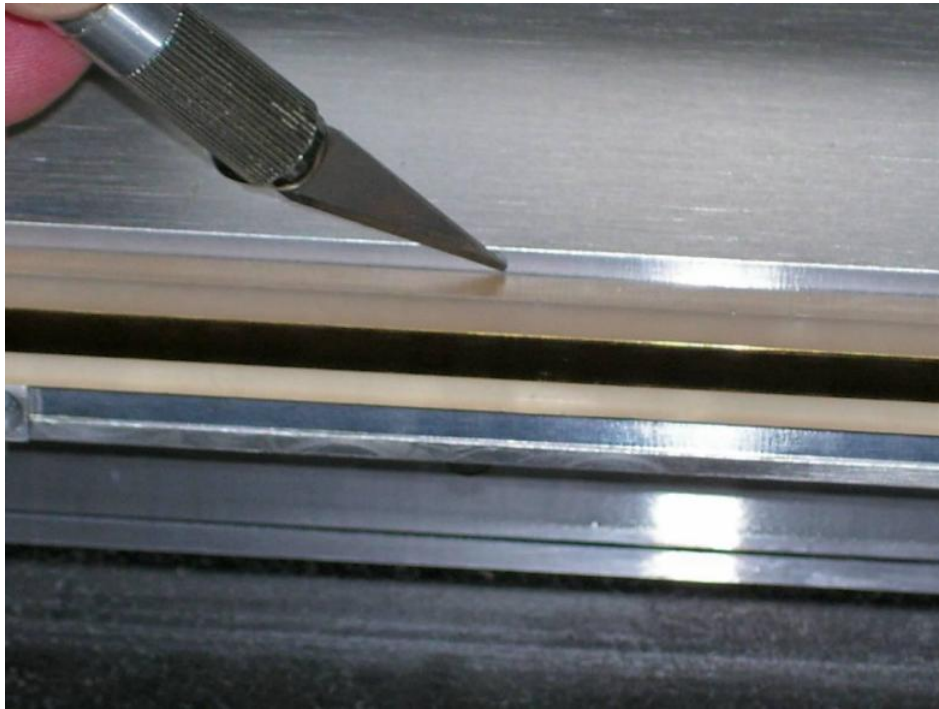

Figure 3 RTV glue removal
4. Cut RTV glue which secure glass scale as shown in Figure 3.